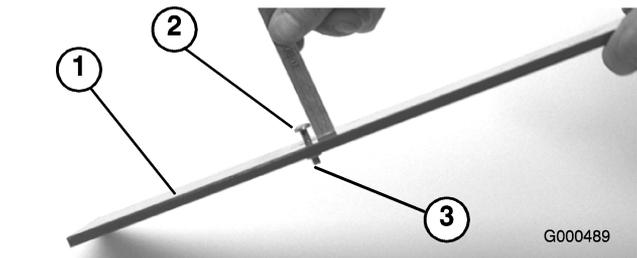

Figure 52
4. Loosen nut on gauge bar (Figure 52) and set adjusting screw to desired height-of-cut. Distance between bottom of screw head and face of bar is height-of-cut.